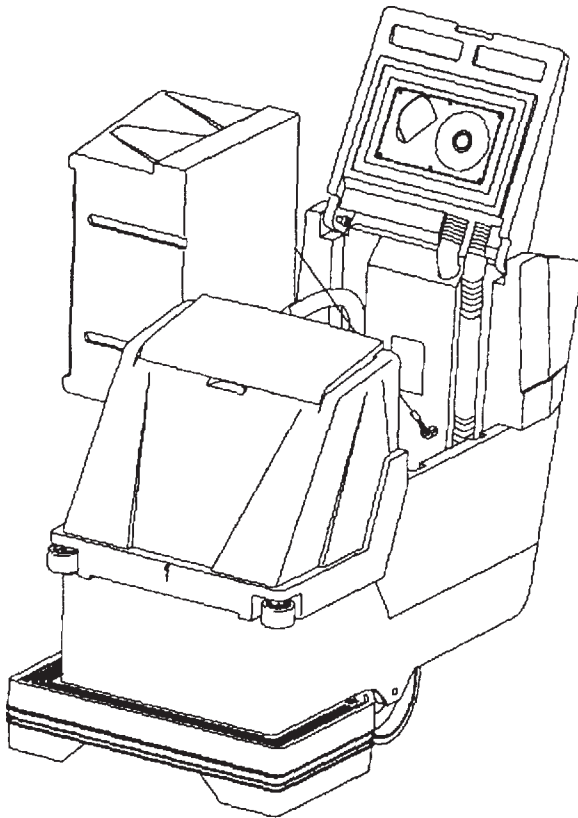

Figure 1
1. Disconnect tank drain hose from rear of machine (6).
2. Raise tank assembly by raising rear cover and tilting tank, Figure 1.